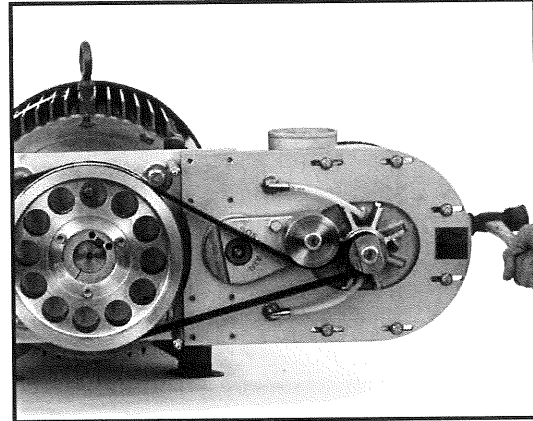

Figure 31 - Adjust Belt Gap
9. If a ¾ inch belt gap was not achieved, use a ½ inch box-end wrench to loosen the blower head screws and slide the head. (See Figure 31)